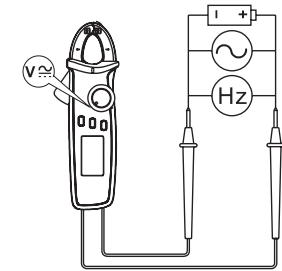

Figure 2
VII. Description of Symbols (Figure 2)
- Touch the measured part with the red and black probes, such as a power socket (Figure 2).